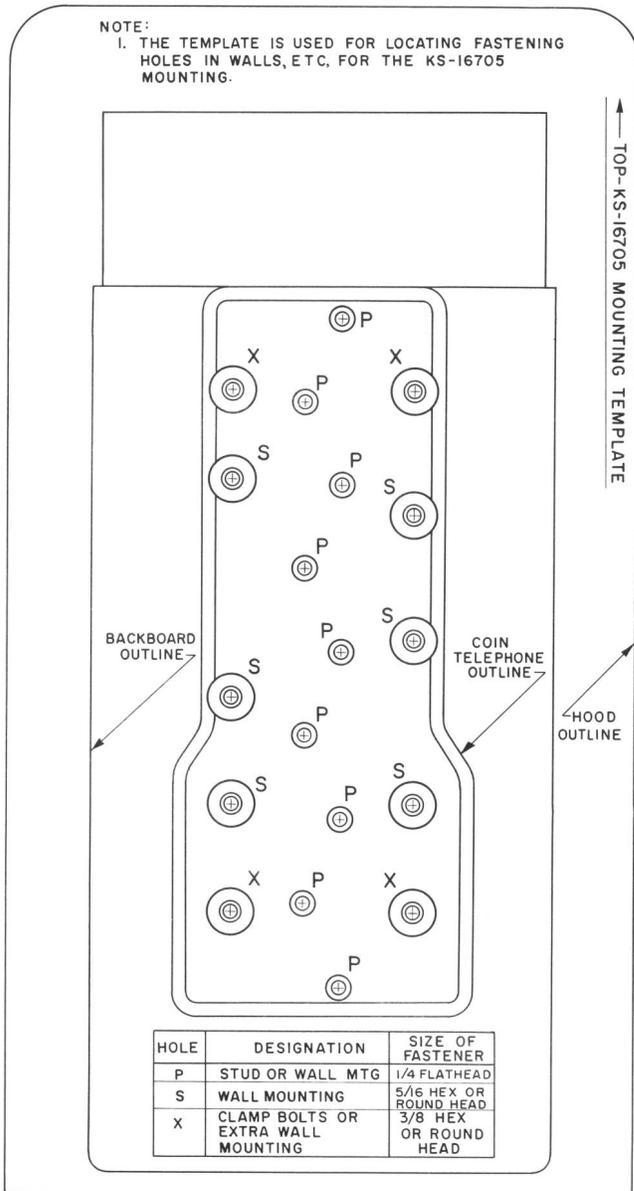

Fig. 9 – Paper Template
3.05 A paper template, B-192542, is furnished with each mounting for locating wall fastening holes (Fig. 9).